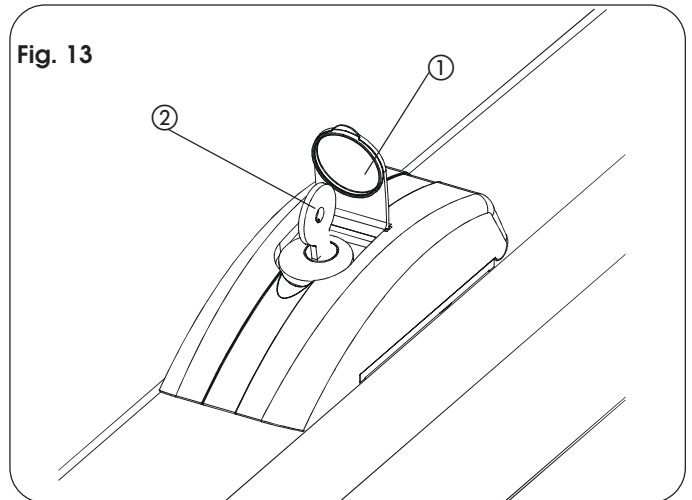
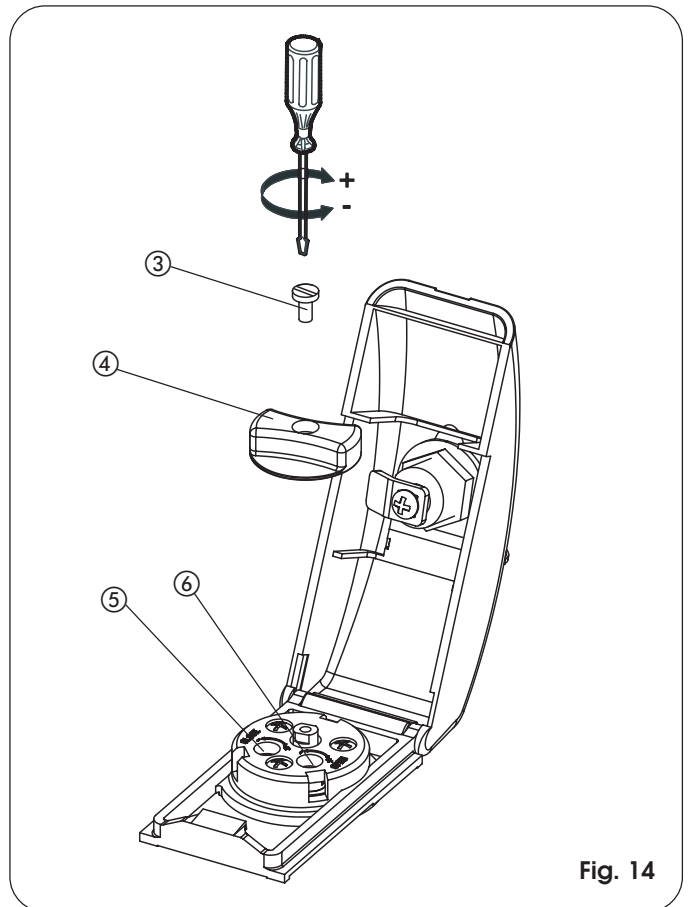

Fig. 13
Fig. 14
- Lift the protective plug (Fig. 13, ref. ①) and fit the supplied key (Fig. 13, ref. ②).
- Turn the key 90° clockwise to open the cover.
- Lift up the cover (Fig. 14).
- Back off the screw (Fig. 14, ref. ③) which secures the knob, and withdraw the knob (Fig. 14, ref. ④).
- Turn the force adjustment screws (By-Pass) (Fig. 14, ref. ⑤ and ⑥) on the operator.
- When you have finished adjusting, re-position the knob (Fig. 14, ref. ④) and fasten the screw (Fig. 14, ref. ③).